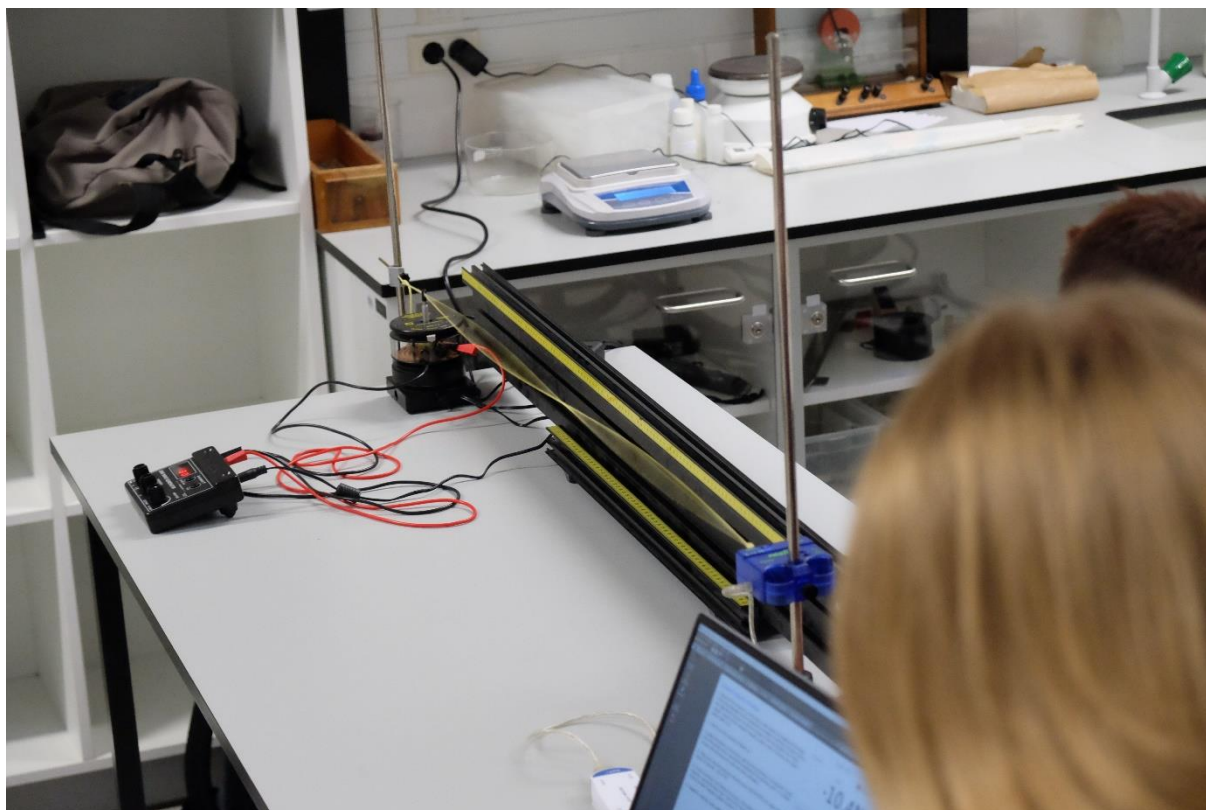

Figure 5: Standard Setup
1. Setup as shown in Figure 5. Clamp the String Vibrator firmly to the table. Attach two banana cables from Universal Interface to the Inputs on the String Vibrator. Polarity does not matter.
1. Move the Force Sensor **so the string is under tension and determine the length of the string** between the knot attached to the blade on the String Vibrator and the knot attached to the hook on the Force Sensor. **We will adjust for two segments (as in Figure 5)** for each case, so the knot to knot distance will be the wavelength. Record your value.
4. Adjust the tension in the string to get the string vibrating in two segments (as in Figure 5) and to maximize the amplitude of the standing wave. It is easiest to start with the tension too high and slowly decrease it.